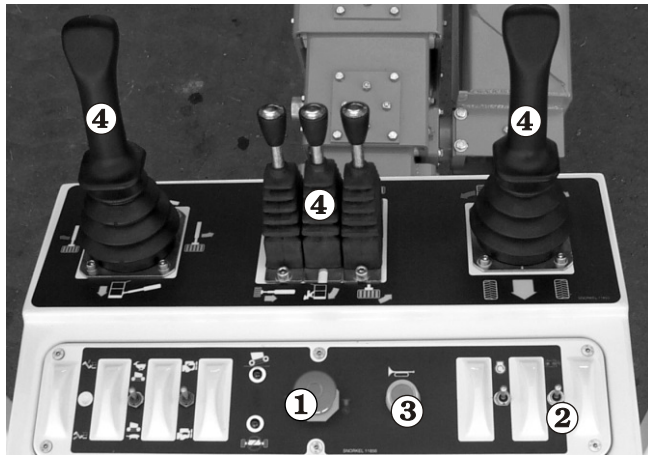

Figure 6.23—Platform Controls SP20 (Hydraulic Controls)
Test the operation of each control^❹ in both directions from the upper controls (refer to Figures 6.23 and 6.24).